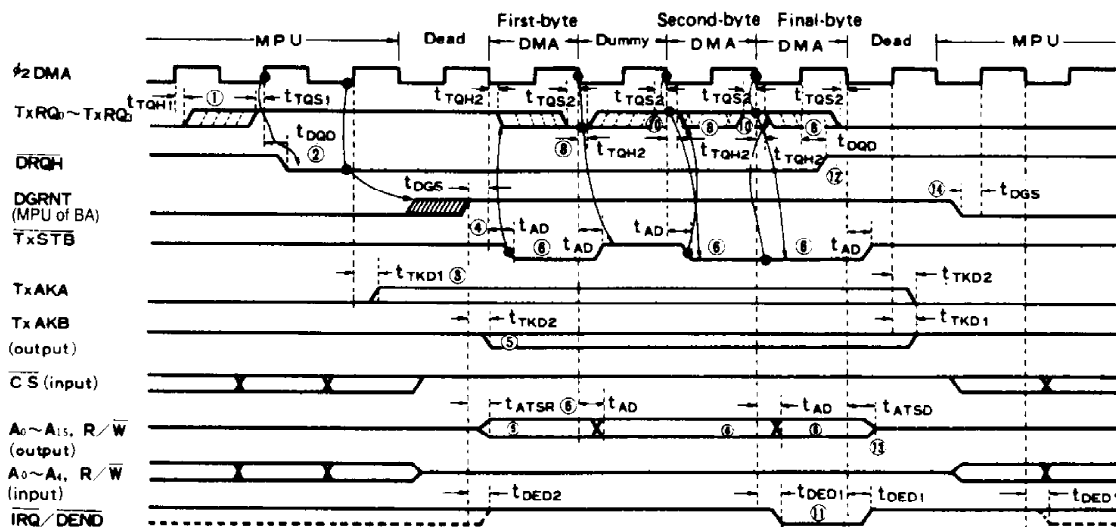

Figure 16 HALT Burst Mode
Its timing chart and flow chart are shown in Fig. 16 and Fig. 13 respectively. Procedure of transfer is the following (No. ① ~ ⑭ in Fig. 16 correspond to the following items).
- ① TxRQ input is checked at the rising edge of ϕ_2 DMA. When it is at "High" level, it gets into the following operation.
- ② \overline{DRQH} ="Low" level is given and MPU is requested to stop its operation.
- ③ TxAKA is driven.
- ④ MPU stops and DMAC waits for DGRNT rising "High" level.
- ⑤ When DGRNT rises "High" level, DMAC drives TxAKB, $A_0 \sim A_{15}$, and R/W lines.
- ⑥ TxSTB is sent out to perform DMA transfer.
- ⑦ Address is incremented or decremented by one and number of transfer words is decremented by one.
- ⑧ TxRQ falls to "Low" level.
- ⑨ When number of transfer words is 0, from ⑪ to ⑭ operations are performed.
- ⑩ When BCR is not "0", TxRQ is checked at the falling edge of ϕ_2 DMA. When TxRQ is at "High" level, DMA transfer is performed through ⑥ ~ ⑧ again. When TxRQ is not at "High" level, DMAC waits for becoming "High" level.
In burst mode, TxRQ should be also, in principle, set to "High" when I/O request is asserted, and reset to "Low" when \overline{TxSTB} goes to "Low". If TxRQ is asserted as level input without being reset, DMA transfer is performed at all cycles of ϕ_2 DMA since TxRQ is always at "High" level at the falling edge of ϕ_2 DMA. Its example is shown in the second-byte and the third-byte transfer in Fig. 16.